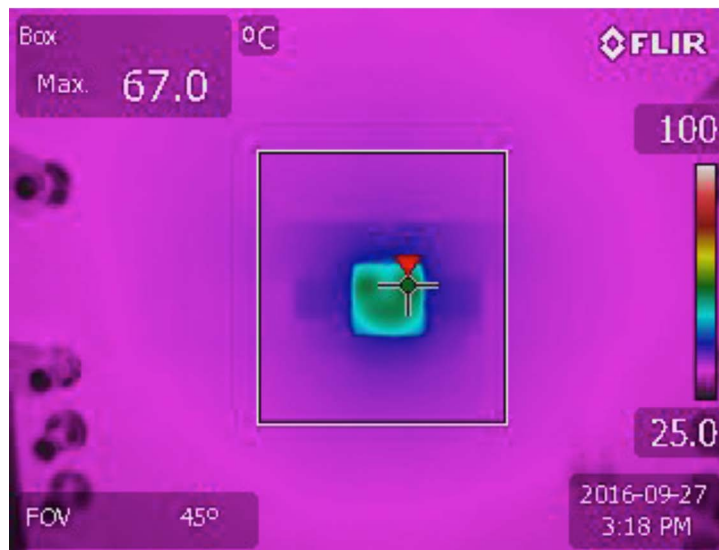
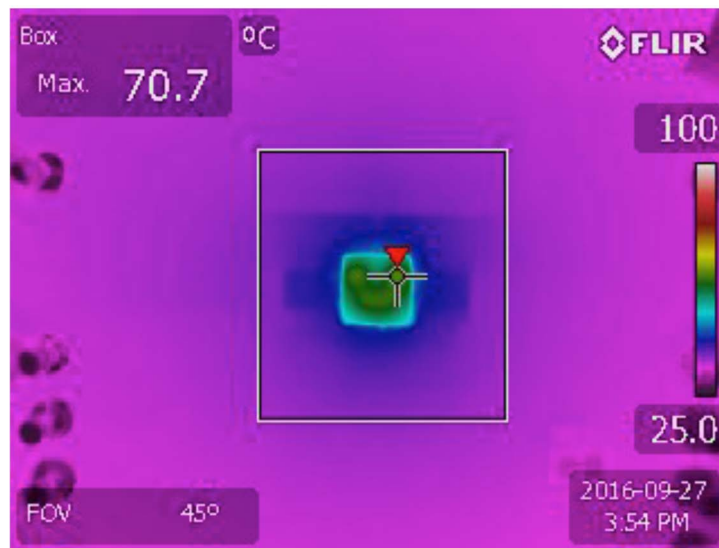

Figure 24. Thermal Image, 12V Input, 3.3V and 5V Output, 2A Each, No Airflow and No Heat Sink
Figure 25. Thermal Image, 12V Input, 5V and 8V Output, 2A Each, No Airflow and No Heat Sink
**Table 7. Output Voltage Response for Each Regulator Channel vs Component Matrix (Refer to Figure 24)**
Figure 24 and Figure 25 show measured temperature picture of the LTM4622A with no heat sink from 12V input down to 3.3V and 5V output with 2A DC current on each and from 12V down to 5V and 8V output with 2A DC current on each. Both without heat sink and airflow.